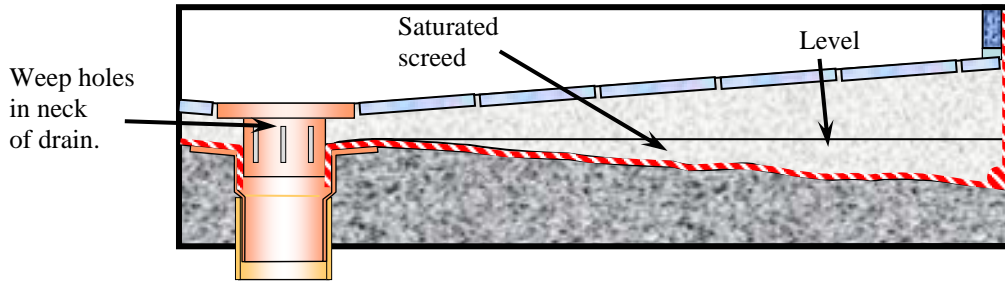

Figure 2. Membrane over negative gradient in substrate. To be avoided as efflorescence will almost certainly occur.
- This method of efflorescence prevention relies on any water that penetrates the tile screed draining to a designated outlet. Therefore it is imperative that there be positive falls in the substrate before any waterproofing membrane or overlaying screed is applied. See **figures 2 and 3**.